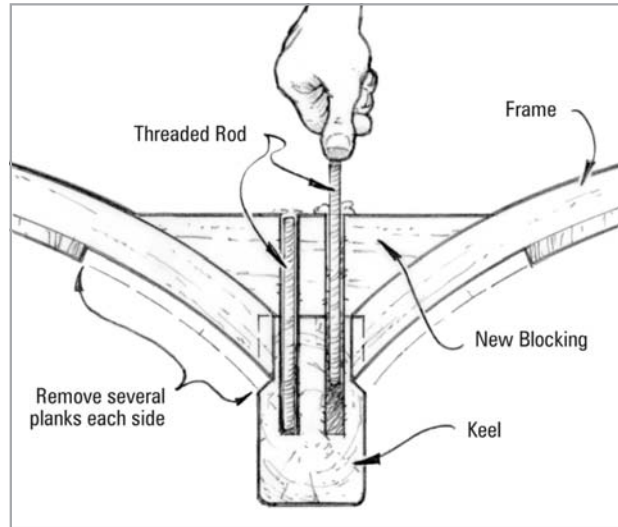

Figure 4-11 Bond threaded rod through the blocking and at least 3" into the keel.
10. Push the coated rod to the bottom of the filled hole (*Figure 4-11*). Fill the holes to the top as necessary. Clean up excess epoxy before it cures.